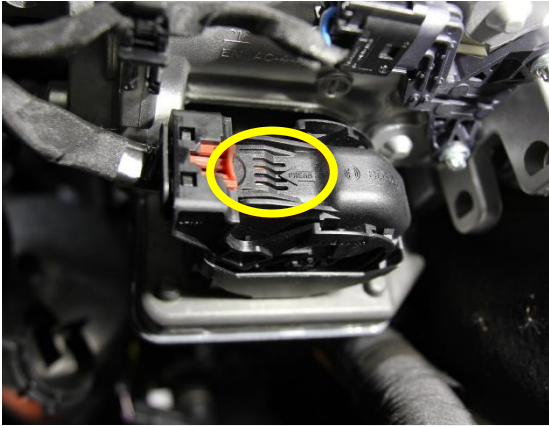
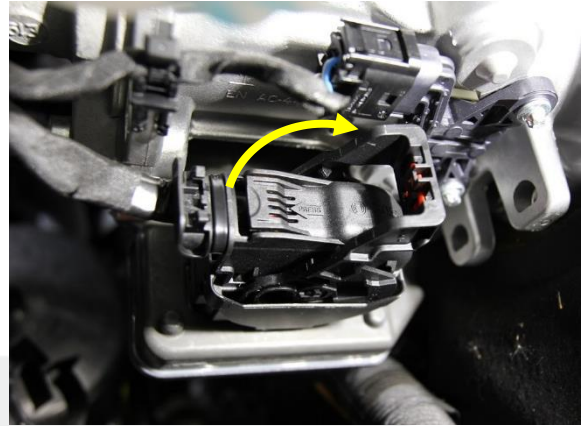

Figure 7
Figure 8
- b. While pressing the black locking tab (Figure 7), swing the lever (Figure 8), and then disconnect the electromechanical brake booster assembly electrical connector.